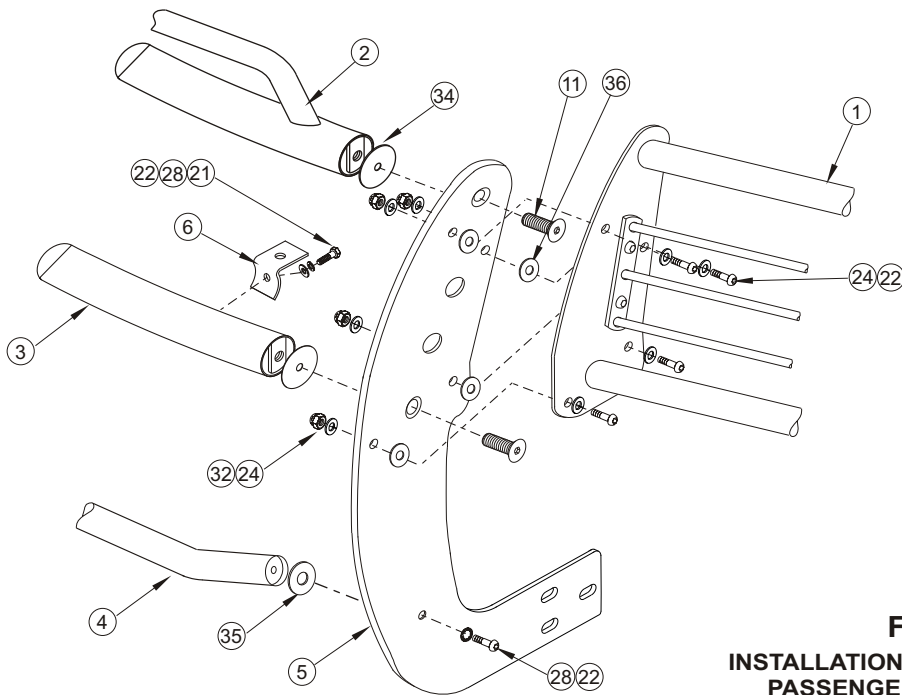

FIGURE 3
- STEP 6. Attach uprights to top, center and bottom tubes as shown. Level tubes and torque 1/2" fasteners to 60 FT.LBS. and 3/8" fasteners to 30 FT.LBS. **SEE FIGURES 3. NOTE:** If needed, Loctite® or similar thread locking product may be applied to center tube fasteners to help prevent them from loosening.
- STEP 7. Attach light mounts to center tube as shown. Torque to 20 FT.LBS. **SEE FIGURE 3.**
- STEP 8. Attach wing assemblies to uprights as shown in **FIGURE 3.** Torque to 35 FT.LBS.